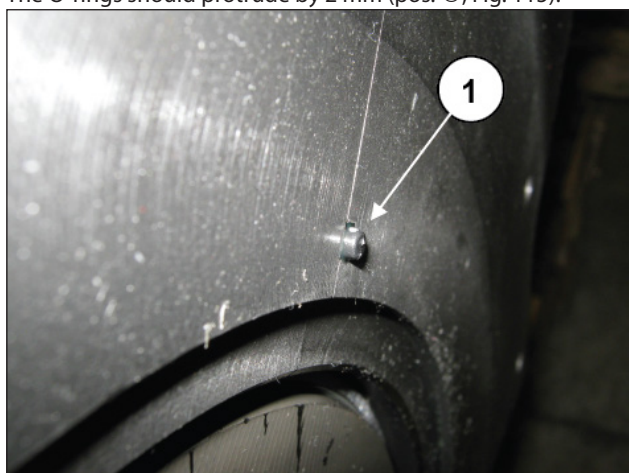

Fig. 115
The O-rings should protrude by 2 mm (pos. ①, Fig. 115).